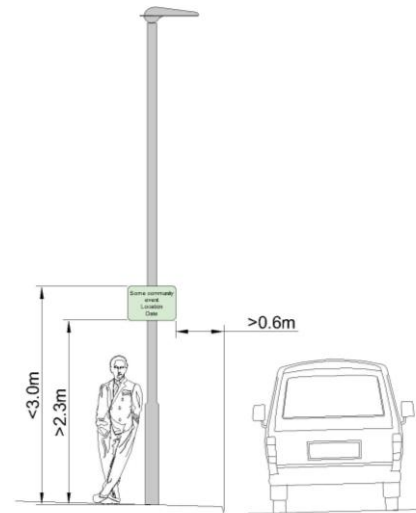

Figure 2.1: Clearance and mounting height for small signs
3. They are set at a height of at least 2.3m but no higher than 3m above the footway (see figure 2.1).